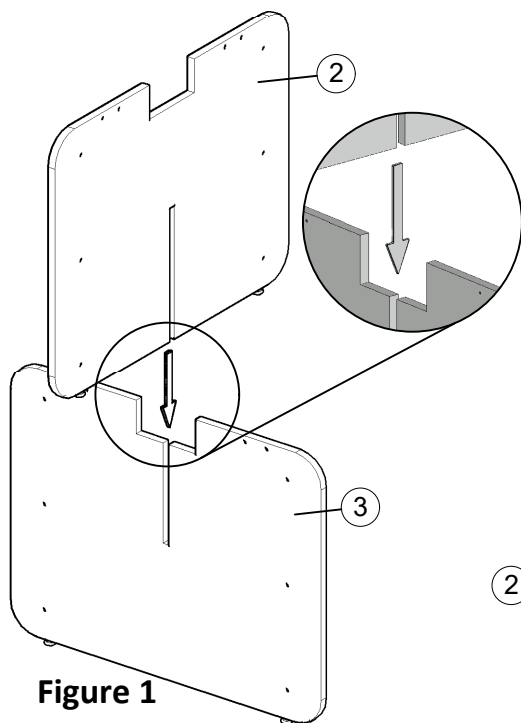

Figure 1
1. Insert Laminate Base 1 into Laminate Base 2, as illustrated in Figure 1.